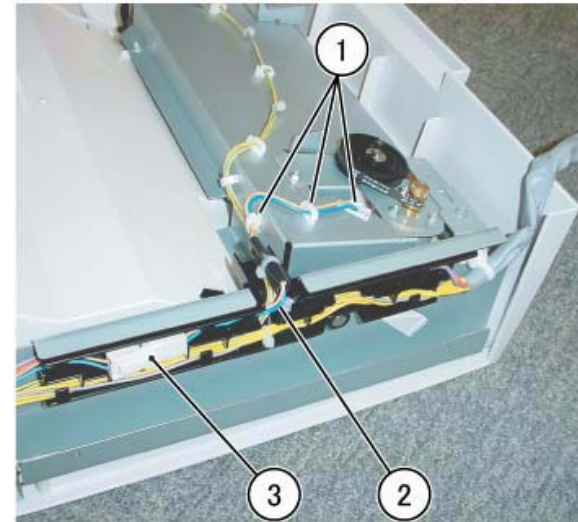

Figure 1 Disconnecting the Connector
7. Disconnect the Connector (Figure 1):